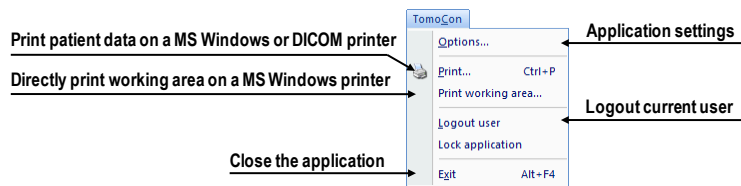

Figure 37 – TomoCon menu
- **TomoCon** – defining the application settings, printing setup (image data printing on a Microsoft Windows printer or DICOM printer), logging into and out of the application and closing TomoCon; see Figure 37.